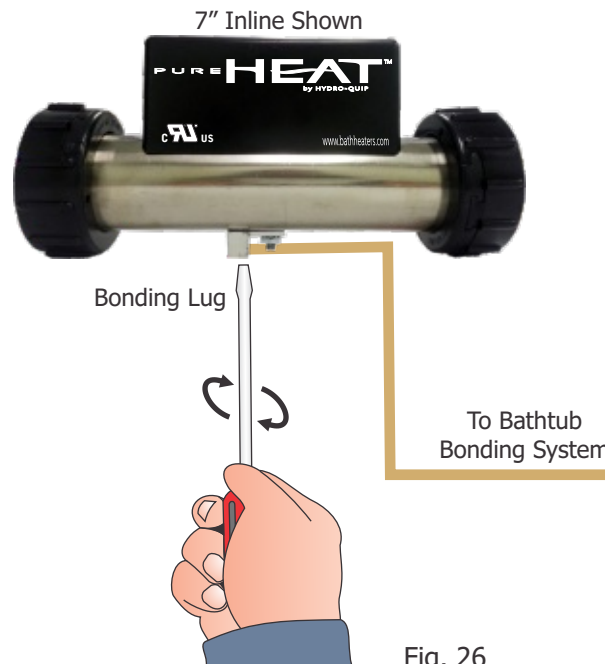

Fig. 26
- 1 - Prior to testing your installation for leaks, you **must** properly bond the Whirlpool Bath Heater to the bonding system of your hydromassage bathtub (see Fig. 26). All Whirlpool Bath Heaters come equipped with a bonding lug and 8AWG bonding wire specifically for this purpose. Refer to bathtub manufacturers instructions to locate the bonding system. All electrical wiring and bonding must be done as specified in Article 680, National Electric Code and your local Building Code.